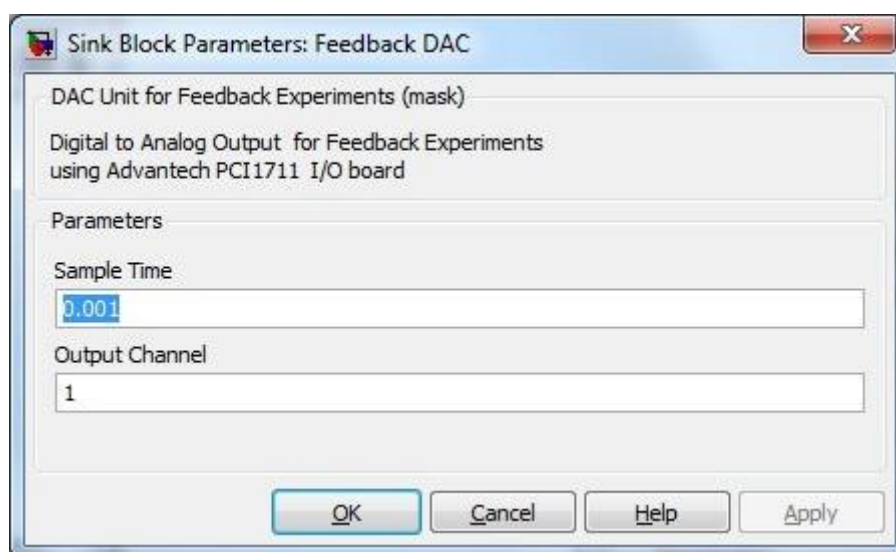

Figure 30 Feedback DAC Block Parameters
- By double clicking on this block we can change the above parameters (Figure 30).